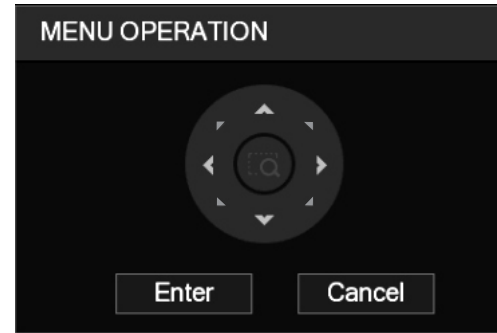

Figure 4-7
Step 4 Click **More Setting**. The MENU OPERATION panel is displayed. See Figure 4-7.